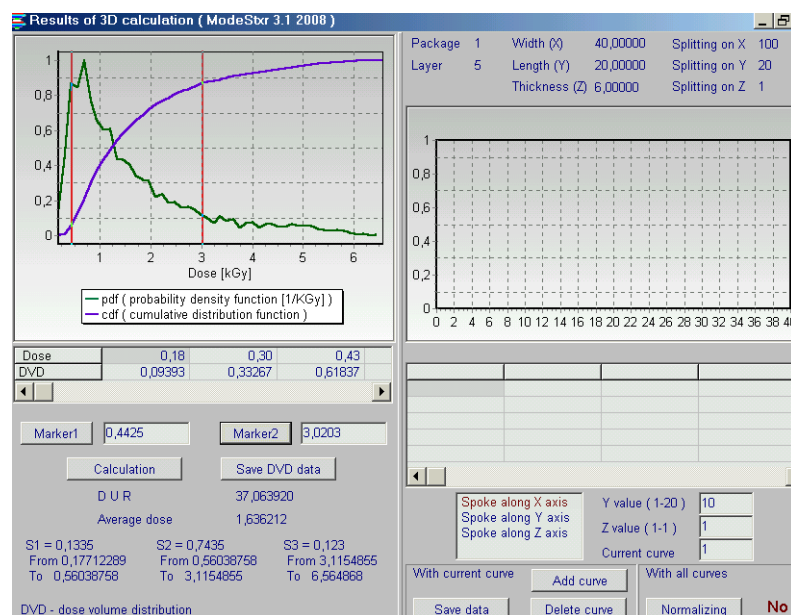

Fig.24. The form of "Results of 3D calculation" for analysis of 3D absorbed dose distribution in the 5th layer of the package.
• Click the button "Show 3D results" in the Form with 2D depth dose distribution, the form of "Results of 3D calculation" will be opened for analysis of 3D absorbed dose distribution for the 5th layer in the package. (See Fig.24).
For above example (see Figs. 2 and 24) all geometrical characteristics (Thickness, Width, and Length) and splitting along axis X, axis Y and axis Z for the 1st layer in 2nd package are presented in Fig.24 (right upside).
The sequence of operations to calculate an absorbed dose distribution along any spokes is the following (see Figs. 24 and 26):
(see Figs. 24 and 26).
3. **“Converted dosimetric file”** – it is result which was calculated and saved for the EB dose distribution along any spokes in the form of **"Results of 3D calculation"** and further converted through the **block “Dosimetry”**. (See Fig.24).